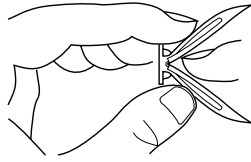

Figure 10 - Folding Anchor
2. Fold wall anchor as shown in Figure 10.